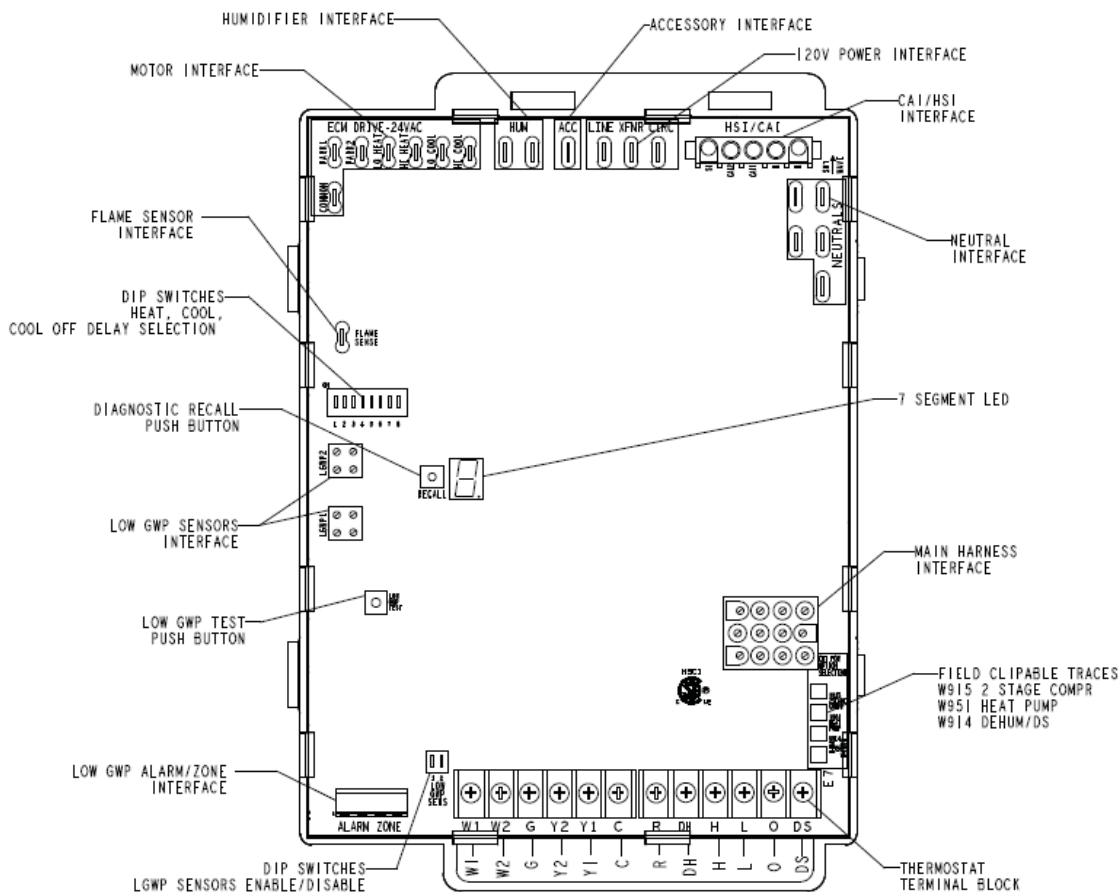

Figure 4. Integrated Control
Units are equipped with a two-stage, integrated control. The system consists of an ignition / blower control (**Figure 4** and **Figure 5**) with control pin designations in **Table 1** and ignitor (**Figure 12**). The control and ignitor work in combination to ensure furnace ignition and ignitor durability. The control provides gas ignition, safety checks and indoor blower control with two-stage gas heating. The furnace combustion air inducer, gas valve and indoor blower are controlled in response to various system inputs such as thermostat signal, pressure and limit switch signal and flame signal. The control features a seven-segment LED display, indicating furnace status and error codes. The LED flashes in single digits. For example, using **Table 4** under LIMIT CODE, an "E" followed by "2" followed by "5" followed by "0", the limit switch circuit is open. The control also has two unpowered (dry) 1/4" contacts for a humidifier and a 120 volt accessory terminal. Both rated at (1) one amp each.